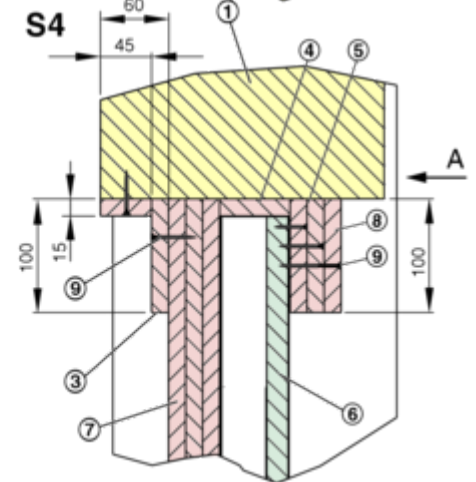

Fig. 37: Details EK-JZ Dry installation in Gypsum Wall with metal stud EI 120 S
Details ↗ Fig. 37
- Wall construction according to manufacturer's instructions. Prepare the installation opening according to Fig. 37 .
- Connect damper and wall with angle section (3) made of sheet material by means of (Jack-Point Screws 41 mm)